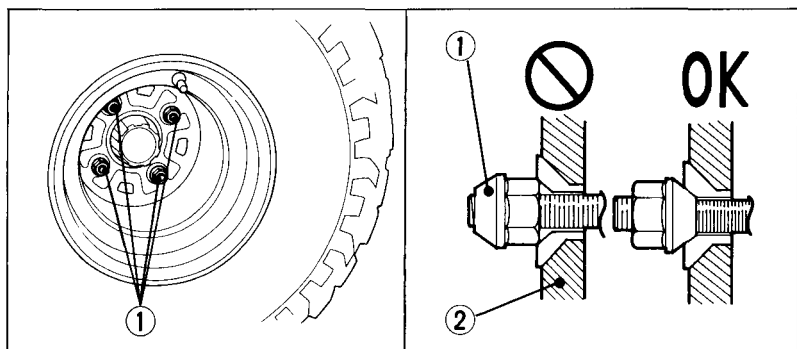

Fig. 4-31 (1) Wheel nuts (2) Wheel rim
2. Loosen the wheel nuts (Fig. 4-31) with a 17 mm socket wrench.